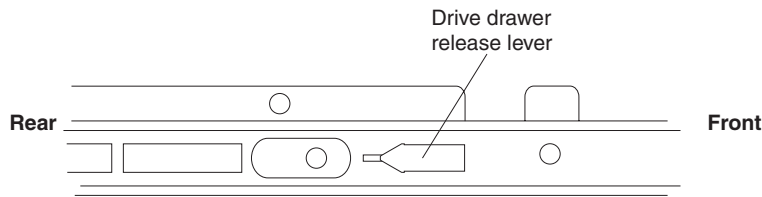

Figure 59. Drive drawer release lever on the side of the drive drawer
- d. Slide the drive drawer release lever (see Figure 59 on page 120) on both sides of the drive drawer toward you, and remove the drive drawer from